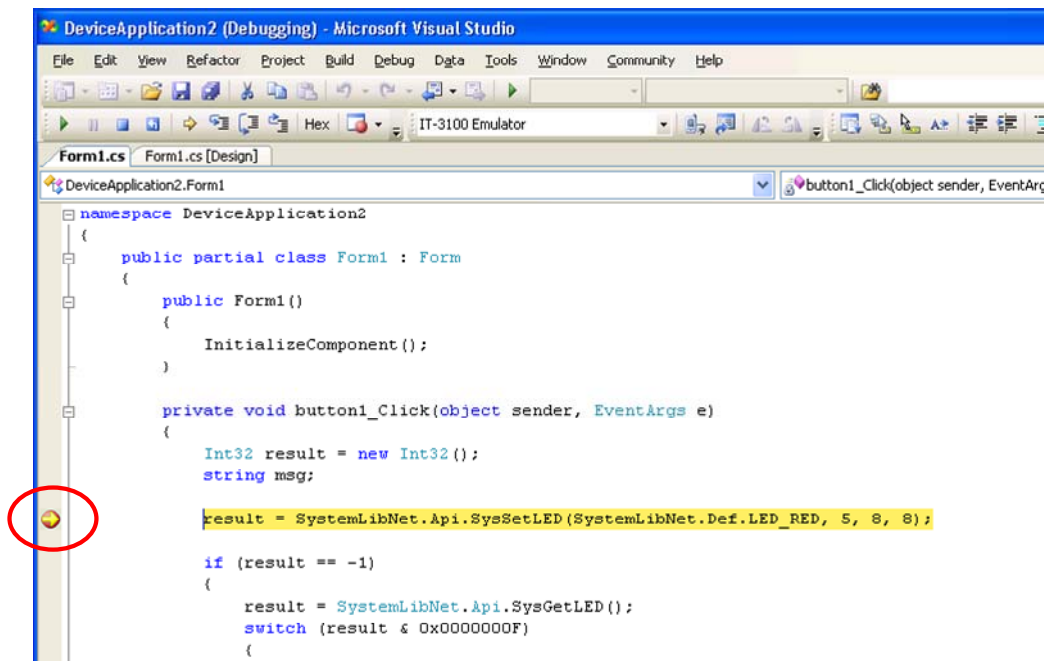

Figure 7.20
2. Similar to ordinary debugging operations with an actual IT-3100, the **Device Emulator** allows break point setting (circled in red in Figure 7.20) in the source code and step-by-step debugging.